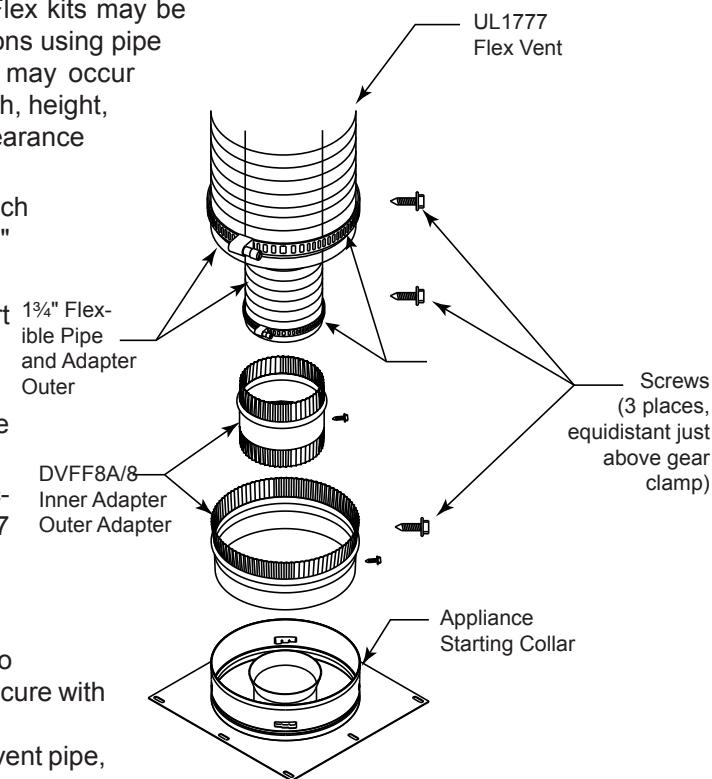

Figure 26 -
2. The flex adapter starter kit (DVFF8A/8) is used to attach flex venting to the appliance starting collar. It includes 5" inner and 8" outer adapter rings. *Figure 26*
A. Installing the inner flex adapter and pipe. *Figure 26*
B. Installing the outer flex pipe. *Figure 26*